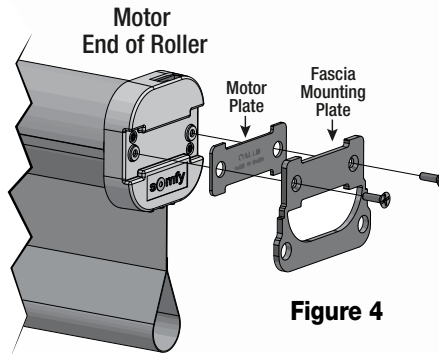

Figure 4
1. Attach Motor Plate and Fascia Mounting Plate to DC50 motor with the two (2) provided screws (Fig. 4).